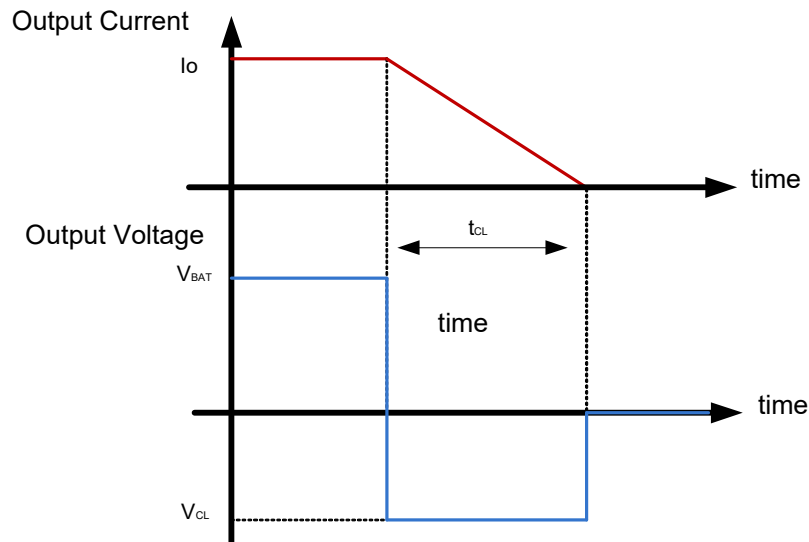

Figure 22. Simplified negative output clamp waveform
In case of an inductive load (L), the energy is dissipated after the turn-off inside the N-channel MOSFET. When $t_{\text{CL}} (= I_{\text{O}} \times L / V_{\text{CL}}) > 1.0\text{ ms}$, the turn-off waveform can be simplified with a rectangle as shown in Figure 22.